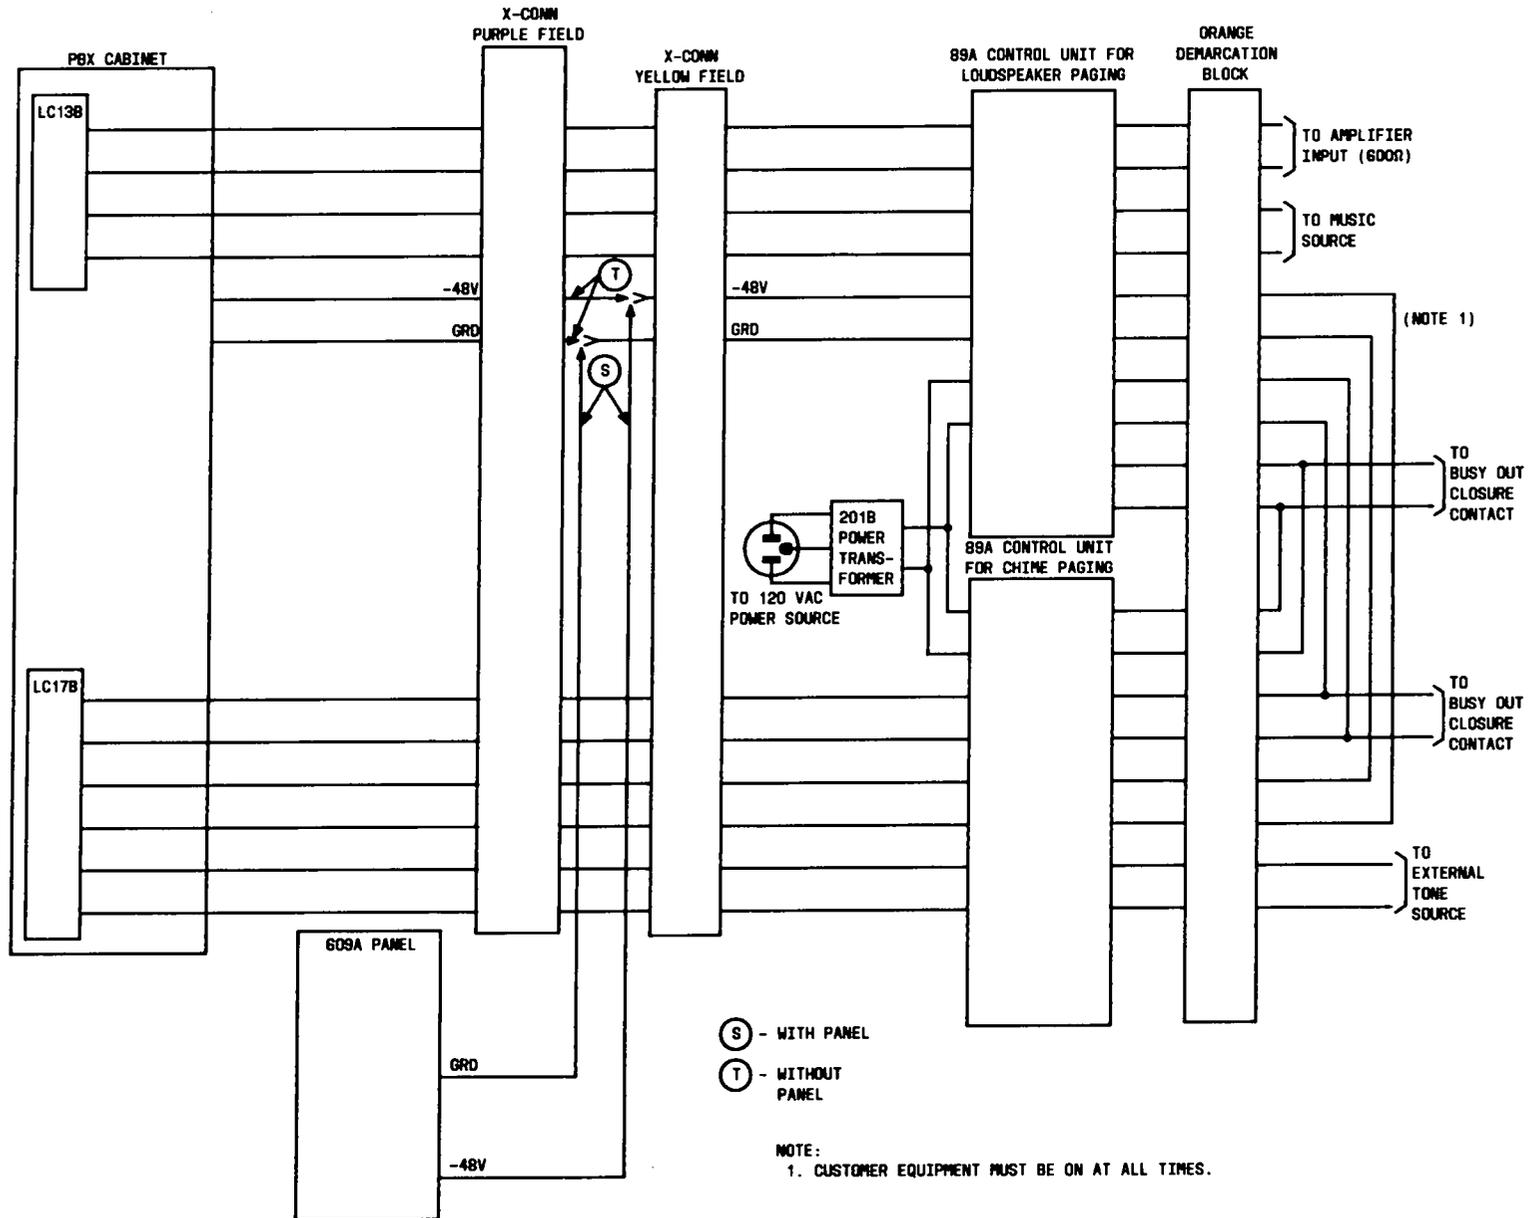

Fig. 31—Loudspeaker Paging With Chime Paging and Music Background
**4.90** Connections for loudspeaker paging with chime paging and music background are illustrated in Fig. 31.